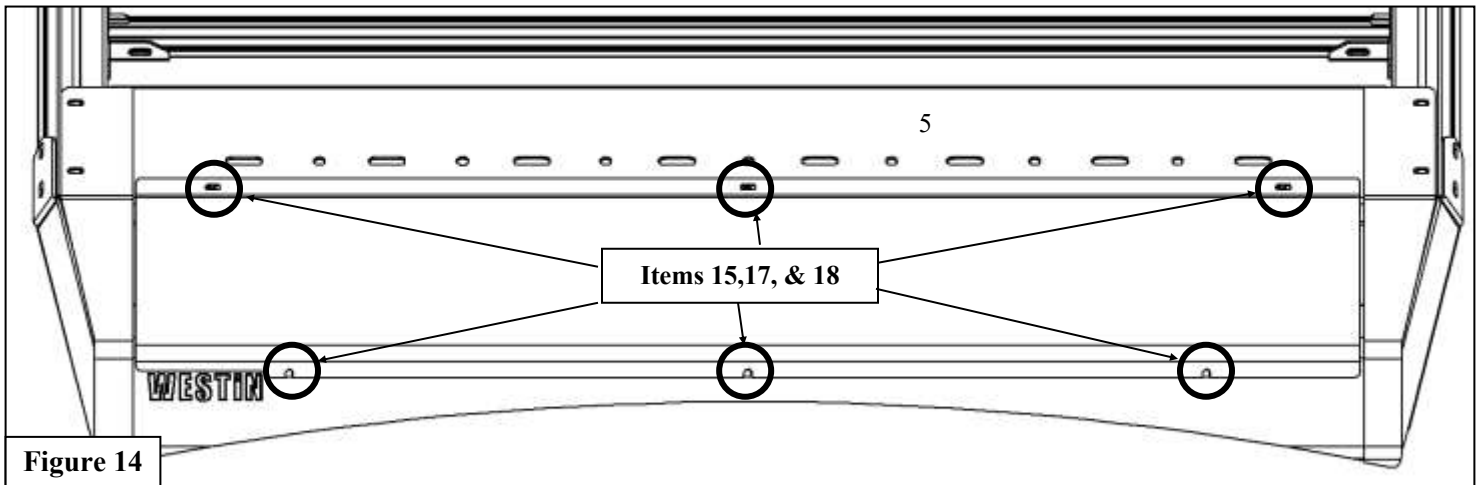

Figure 14
14. Loosely secure the Visor Cover Plate (**Item 6**) to the Visor using the Provided M6 Hardware (**Item 15, 17, & 18**). See **Figure 14** for reference. **NOTE:** *If you are installing lights onto the Visor, the Visor cover plate will not be needed.*